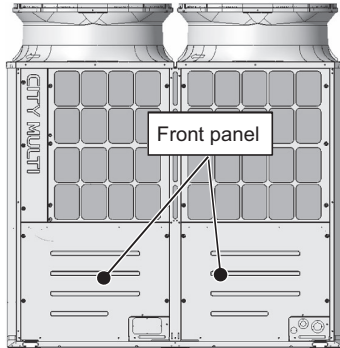

Figure 1
- (1) Remove the front panel from the unit by unscrewing the eight screws. (See Figure 1.) *Figure 1 shows the unit without the front panel.
- (1) Remove the front panel from the unit by unscrewing the 14 screws. (See Figure 1.) *Figure 1 shows the unit without the front panel.
- (2) Remove the fin guard by unscrewing the 12 screws. (See Figure 1.)
- (4) Remove the center pillar by unscrewing the five screws. (See Figure 1.)
- (1) Remove the front panel from the unit by unscrewing the 14 screws. (See Figure 1.)